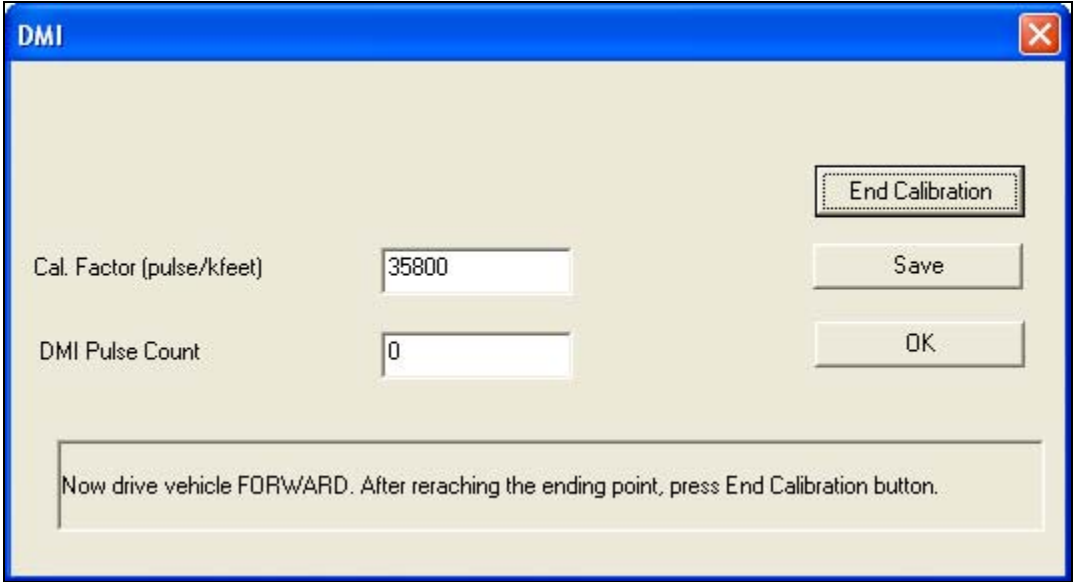

Figure 17. Beginning Screen for DMI Calibration.
- Press the Start button; the screen shown in Figure 17 appears.